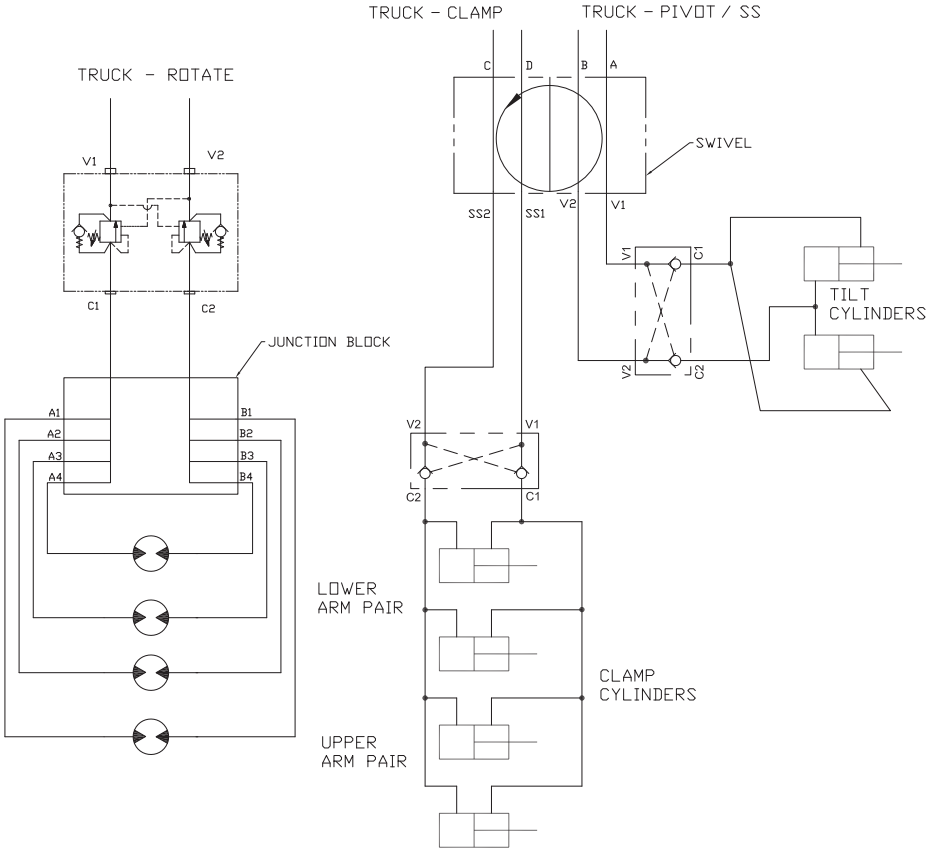

Figure 5-44, Hydraulics
2. Disconnect the hydraulic hoses from the truck at the attachments swivel assembly ports 1, 2, 3 and 4. (Figure 5-44)